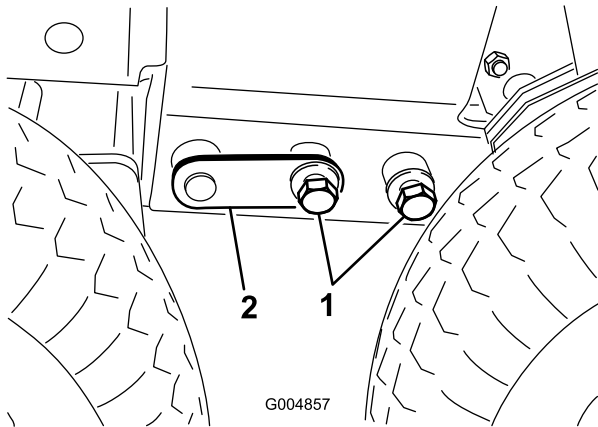

Figure 21
8. Adjust the floor jack or rock the cab with your hands as required to install the bolts (3/4 inch) on each side (Figure 21). Torque the bolts to 265 ft-lb (359 N-m).